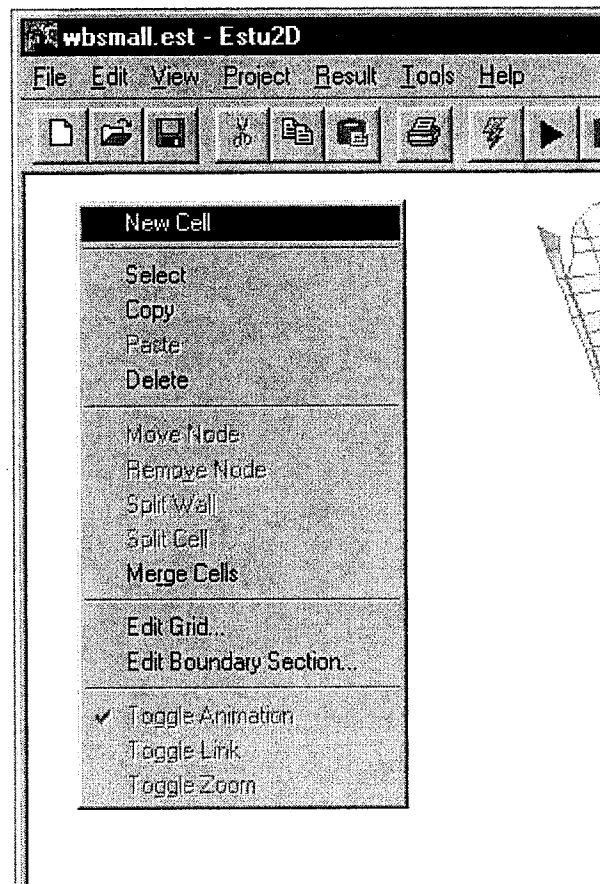

Fig. 4. 4. Context Menu.
1. Select **Edit | New Cell**, or right-click inside the project work space. A **Context Menu** will pop up under the mouse cursor (see Fig. 4. 4). Select **New Cell**.